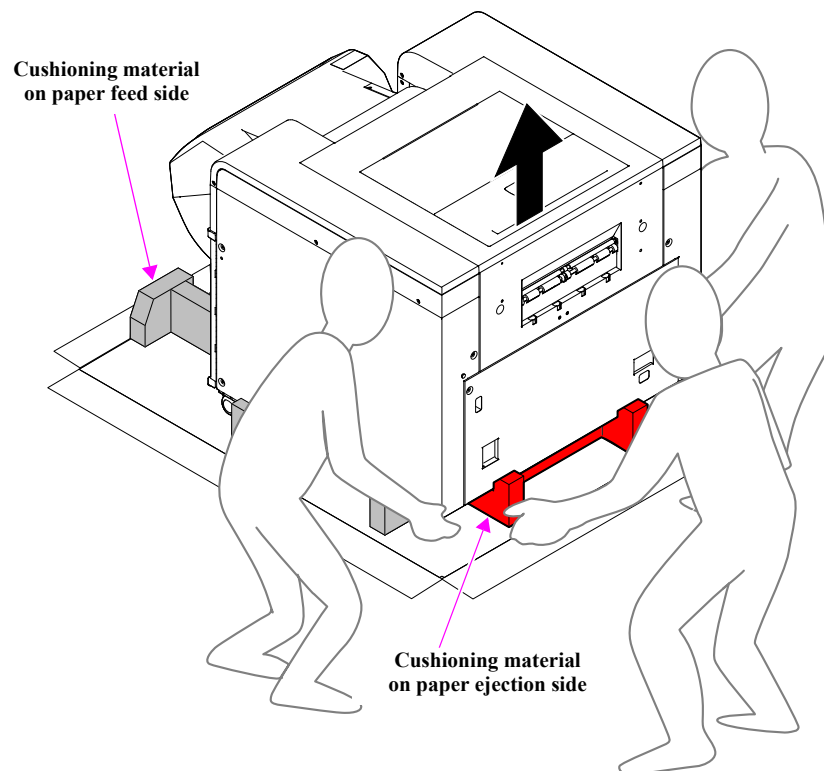

Figure 1-5. Unpacking the Main Body (5)
9. Lift the paper ejection side of the main body, and pull out the cushioning material on the paper ejection side. (Figure. 1-5)